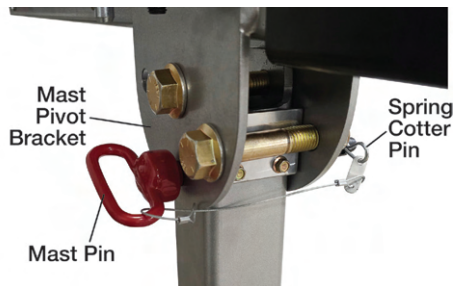

Figure 8-5: Mast Pin Location
5. Inspect the mast pin. Make sure it is in place and the spring cotter pin is installed (see Figure 8-5).